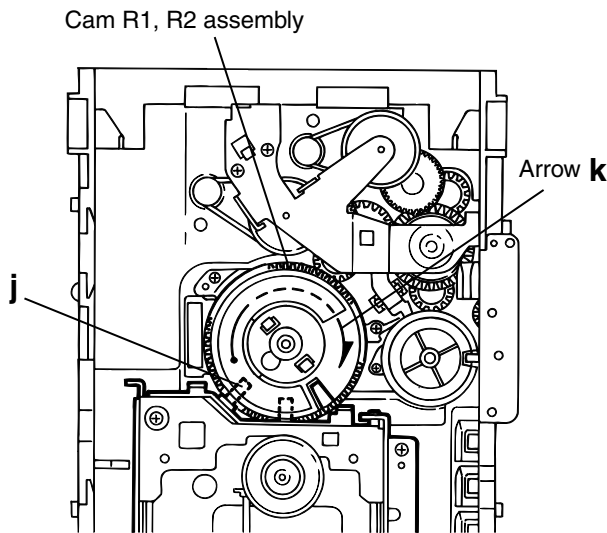

Fig.11
**Removing the CD traverse mechanism (See Fig.11 and 12 )**
1. For dismantling only the CD traverse mechanism without removing the CD loading mechanism assembly, align the shaft "j" of the CD loading mechanism assembly to the position shown Fig.11 while turning the cam R1 and R2 assembly in the arrow direction "k" .